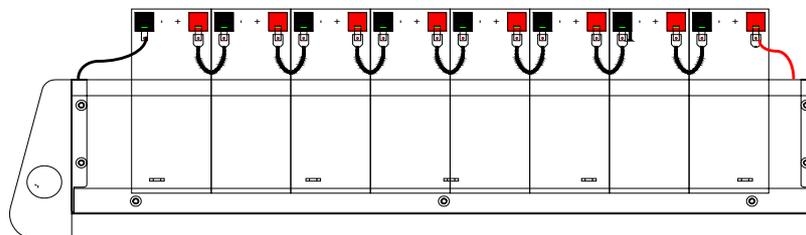

Figure 2.14 Right View of Battery Pack
- 3) Put batteries into battery pack as shown in Figure 2.14 (battery positive and negative terminals must be located on the right side of the battery pack when installing the batteries).